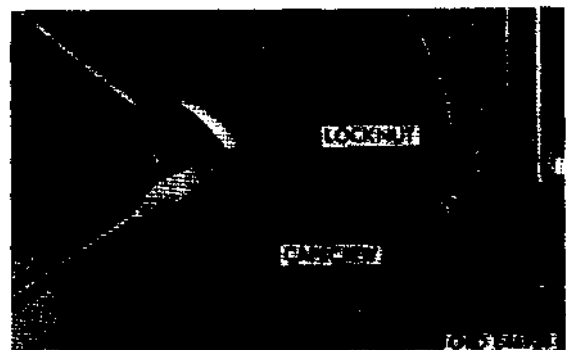

Figure 172. Adjusting pitman arm shaft
c. Tighten side cover adjusting screw (fig. 172) until a very slight drag is felt when turning the steering wheel with a light grip of the thumb and forefinger.
d. Hold the adjusting screw and tighten locknut (fig. 172). Recheck the drag of the wheel through full travel of the gear.
- (3) Loosen locknut (fig. 172) at right side of steering gear housing.
- (4) Turn the steering wheel from one extreme to the other, counting the number of revolutions between the two extremes. Turn steering wheel clockwise as far as it will go; then turn steering wheel counterclockwise one-half the number of revolutions counted between the extreme right and left positions. This places the steering wheel in the middle of its range of travel, which is the correct position of the steering wheel for straightahead steering.
- (5) Tighten adjusting screw (fig. 172) until a very slight drag is felt when turning the steering wheel with a light grip of the thumb and forefinger. Wheel should turn freely with just a perceptible drag.
- (6) Holding the adjusting screw to prevent further turning, tighten the locknut (fig. 172).
(7) Adjust steering-gear jacket ((b) below).
(8) Connect rear end of upper drag link to pitman arm (TM 9-2320-211-20).